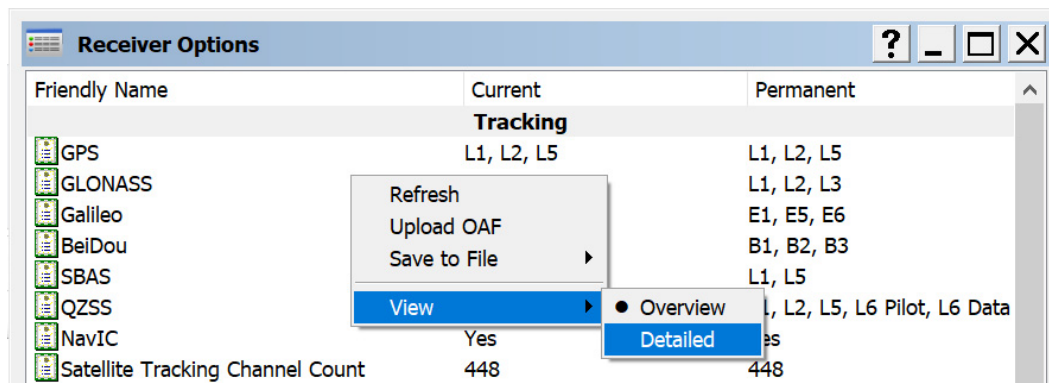

Figure 5-14: Additional OAF Details
10. To view additional OAF details, right-click in the **Receiver Options** window and select **View►Detailed** (Figure 5-14).